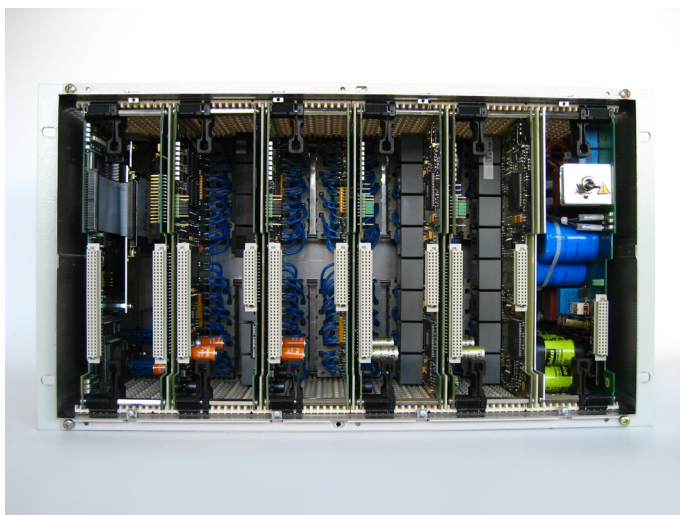

Figure 1-14 Internal view of the device without bus board
- ❑ Remove the bus board from the modules and set it aside (see Figure 1-14).